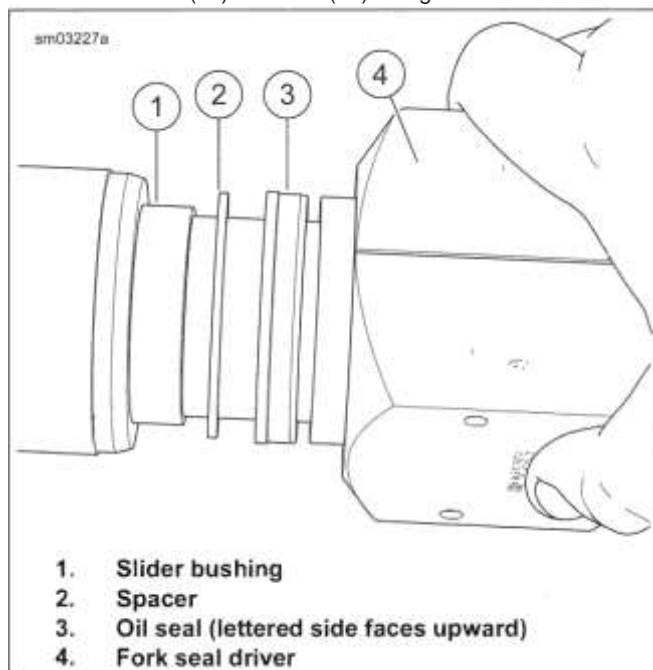

Figure 3-70. Assembled Fork Seal Driver
3. See Figure 3-70. Install fork oil seal.